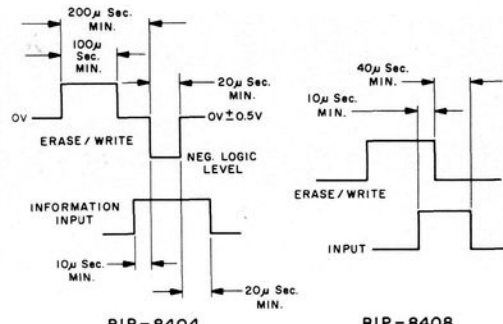

Figure 2b. ERASE/WRITE PULSE and TIMING DIAGRAMS (See Note 3)
See Figures 2b, 5a and 5b, Note 3.
3. The recommended circuits in Figure 5 generate the required erase/write pulses. These pulses (erase/write) must be applied in accordance with Figure 2b.